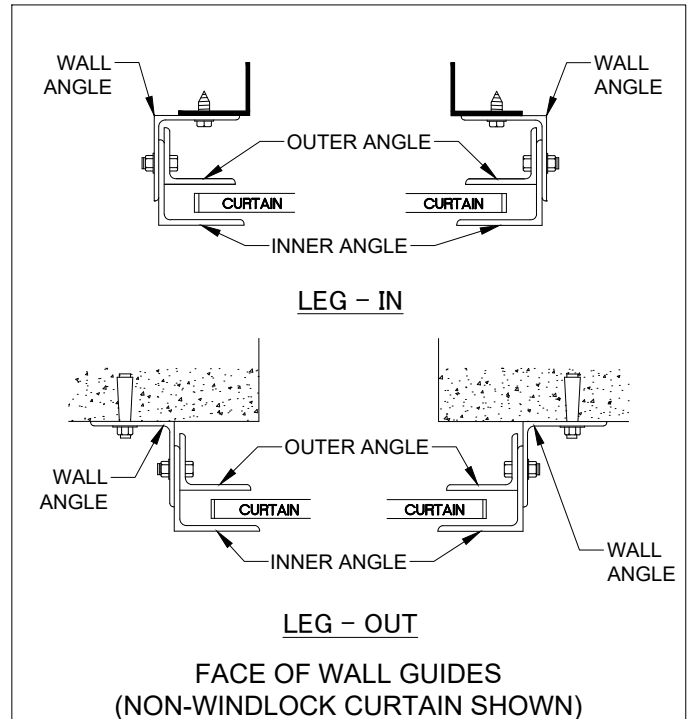

FIGURE 12
- c. Install inner and outer angles as shown in Figure 12.
- c.a. Use one washer underneath the nut as shown in Figure 12.